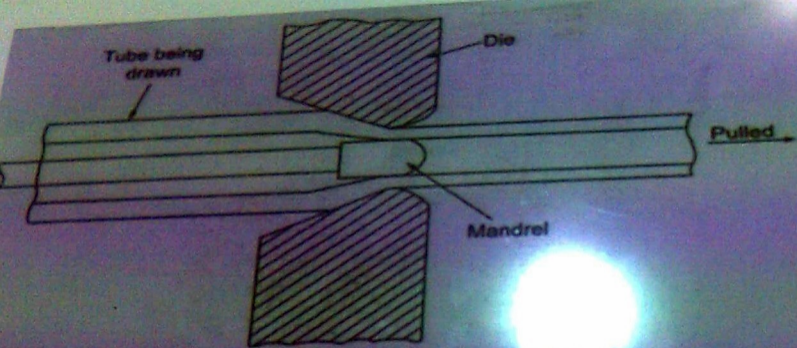

Fig. 7.63 Tube drawing with a mandrel
- Tube drawing is also similar to other drawing process. The main difference is that it requires a mandrel of the requisite diameter to form the internal hole as in fig 7.63.